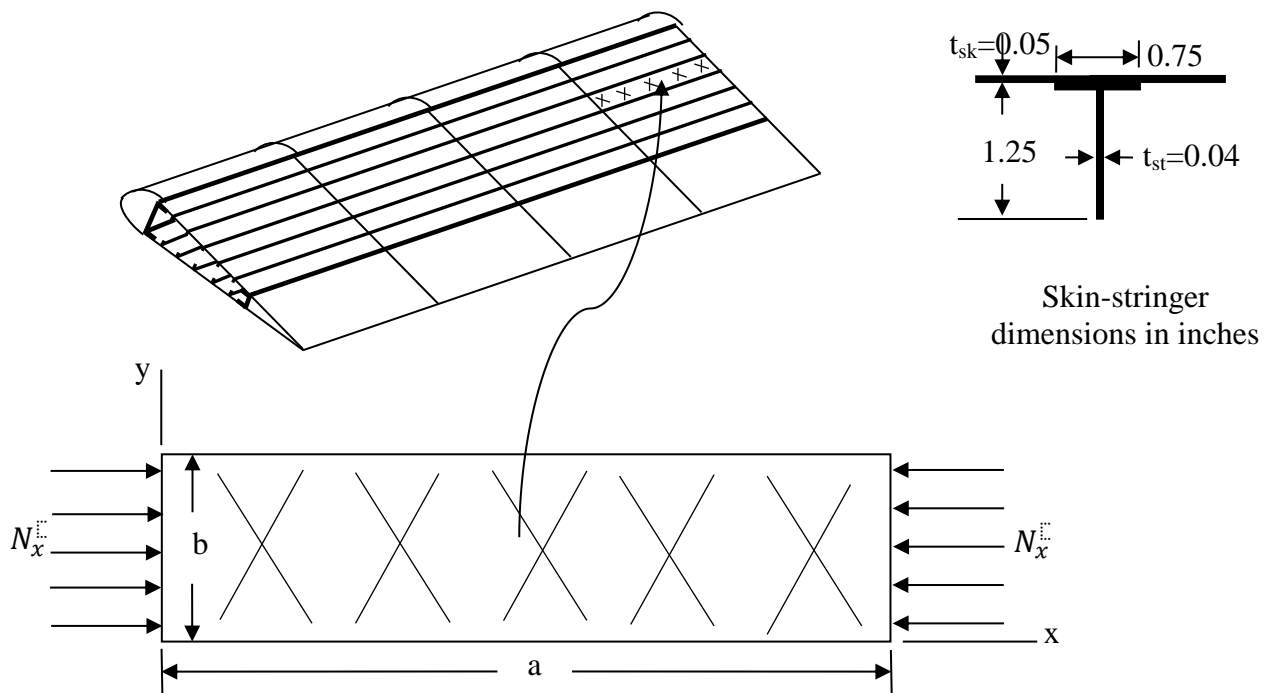

Figure 4
4. **Figure 4** shows 2-spar wing structure.